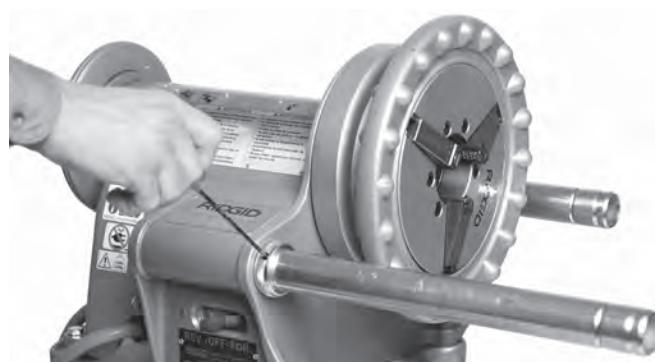

Figure 8 – Set Screw Location
1. Extend Support Bars fully forward. Push Retaining Rings back until they rest against the 300 Power Drive body. Tighten Set Screws in Retaining Rings with a $\frac{1}{8}$ " hex wrench (*Figure 8*).